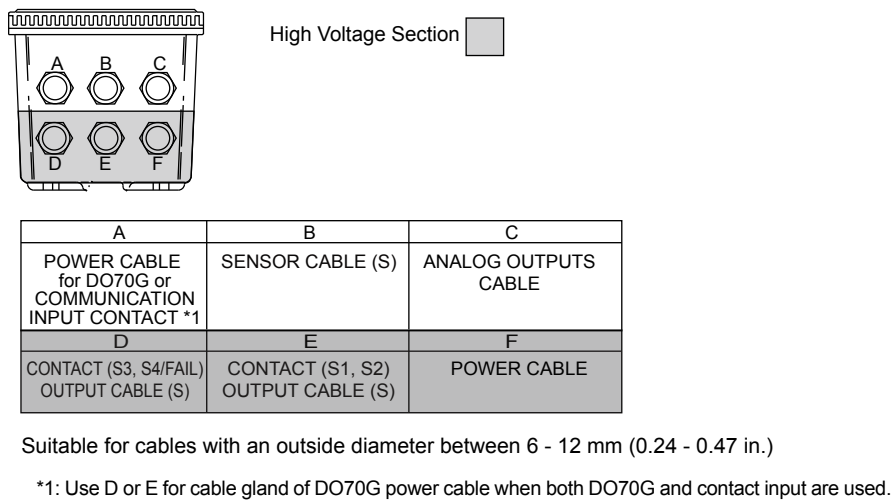

Figure 3.7 Glands to be used for cabling
8. Use the front three glands for analog output, sensor input, contact input and communication cabling (see figure 3.7).
Connect the wires as indicated in the wiring diagram (refer to figure 3.7).